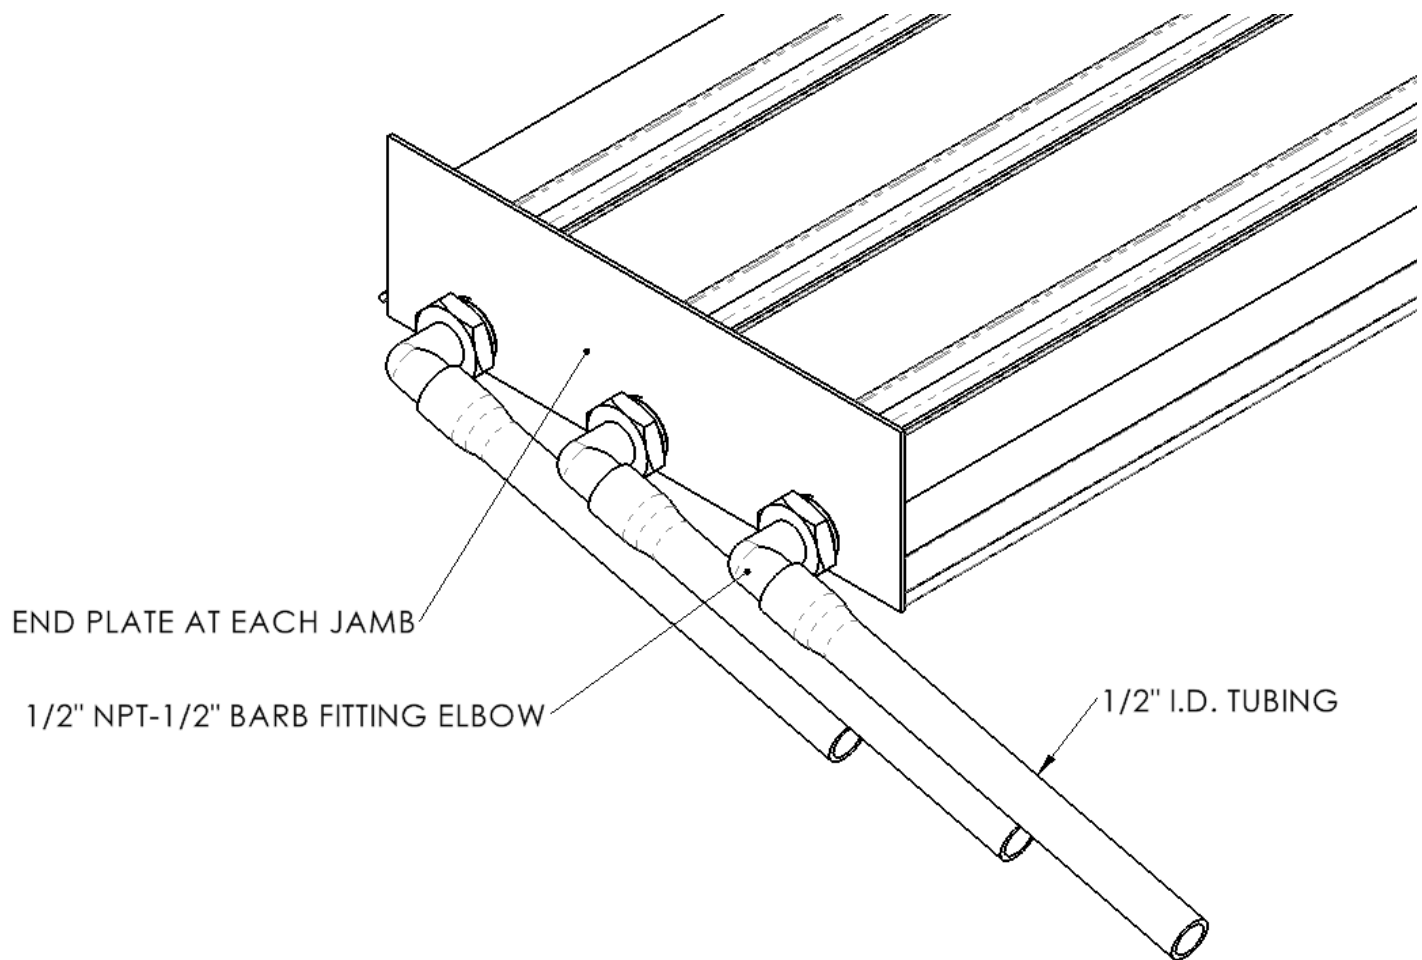

Figure 5
- Side Drain Fitting Sill (See **Figure 5**)
Screw the 1/2" NPT pipe to 1/2" hose barb fittings using tread sealant or Teflon tape to the ends of each track. Push fully the 1/2" minimum inside diameter hoses onto the barbed fittings and route to an appropriate drainage location, ensuring that the hoses have a continuous downward slope of at least 1/4" per foot. See **Figure 5**. Skip to step 10.